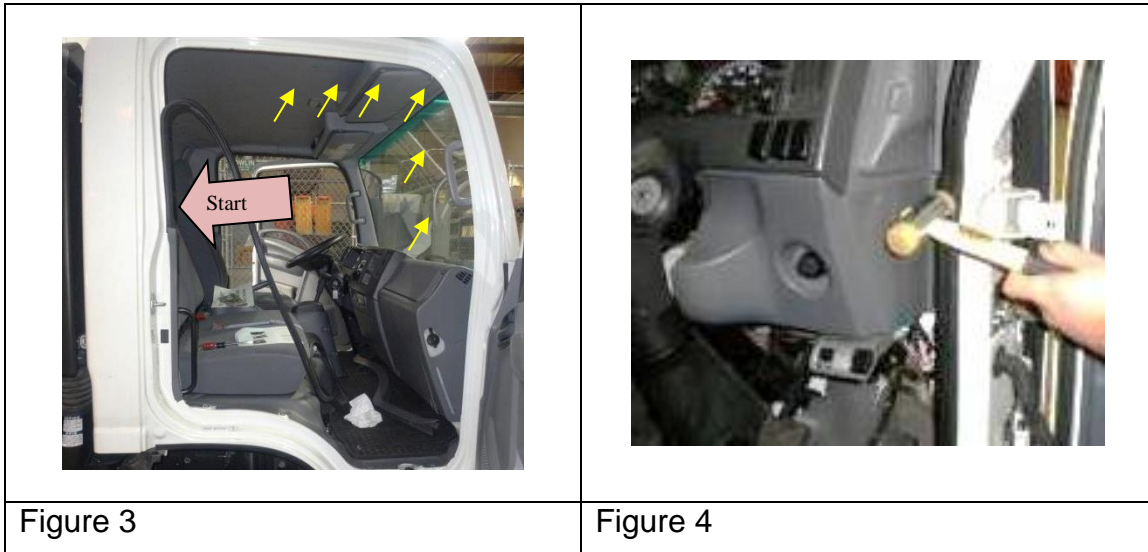

Figure 2
2. Remove the old weather strip by pulling weather strip away from the cabin pinch weld surface. (See Figure 2)